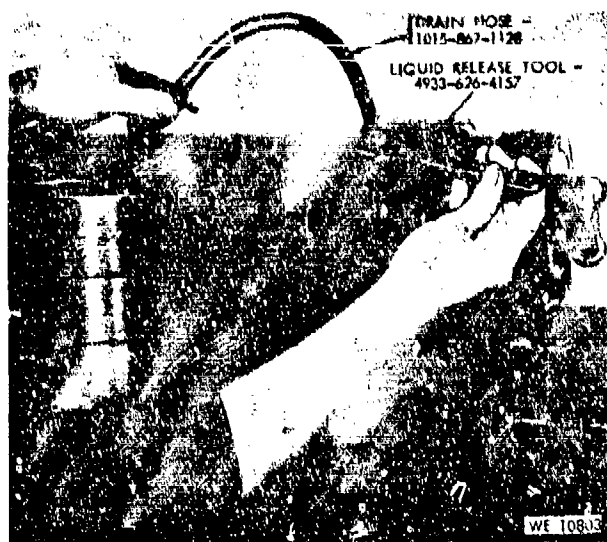

Figure 4-33. Draining oil reserve.
(1) *To drain the oil reserve.* Place tube at 0 mils elevation. To drain the oil reserve (fig 4-33) remove the filling plug with a suitable wrench. Connect the filling and drain hose to the liquid-release tool, insert the tool into the filling hole, and hand-tighten it. Using a suitable wrench, further tighten the tool until the reserve oil spurts out in a stream. In checking the reserve oil before firing, drain only enough oil to cause the oil index indicator rod to protrude slightly and catch the oil in a suitable receptacle. For complete draining of oil reserve, allow the oil to spurt out until the flow stops. Inspect the oil for evidence of water, air, or nitrogen.